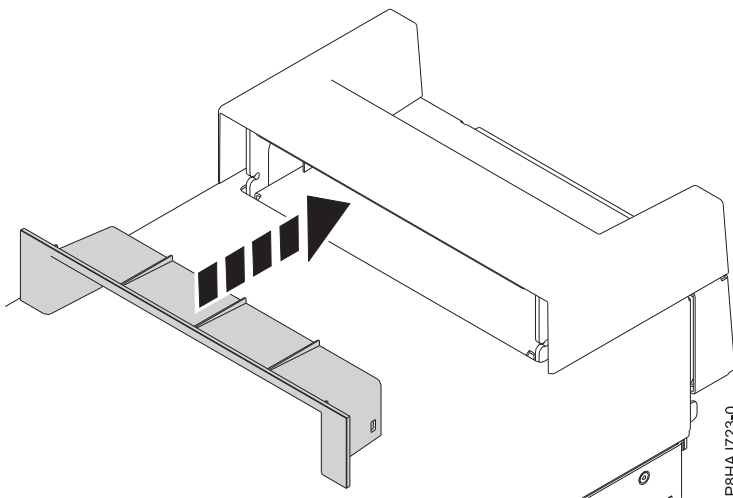

Figure 24. Inserting the piece within the handle cover on an 8286-41A stand-alone system
2. Insert the piece within the handle cover by pushing it firmly into the handle cover as shown in Figure 24.